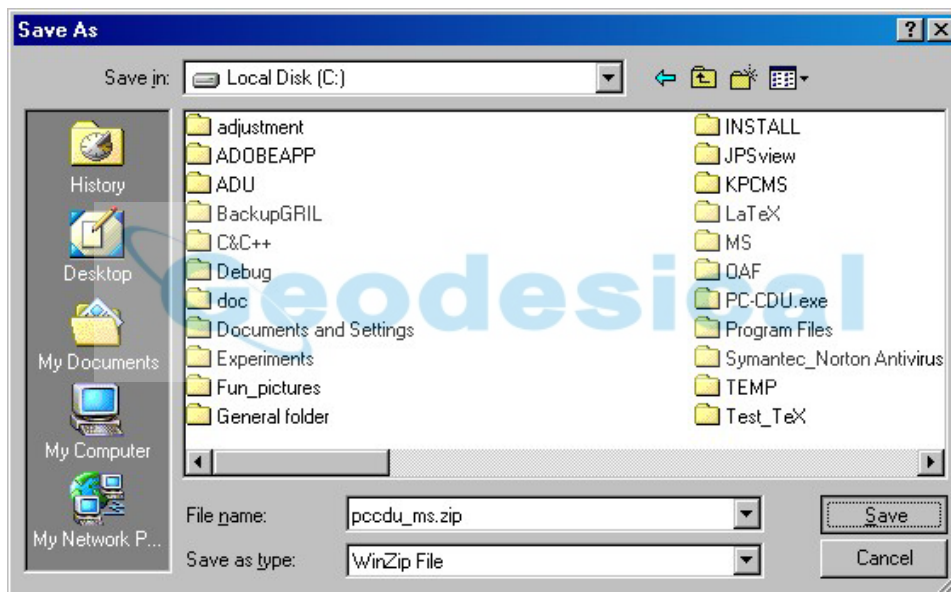

Figure 3. Select a destination for the archive `pccdu_ms.zip`
4. Use the dialog window **Save As** to specify the desired destination (disk drive/folder) for the archive `pccdu_ms.zip` (Figure 3).